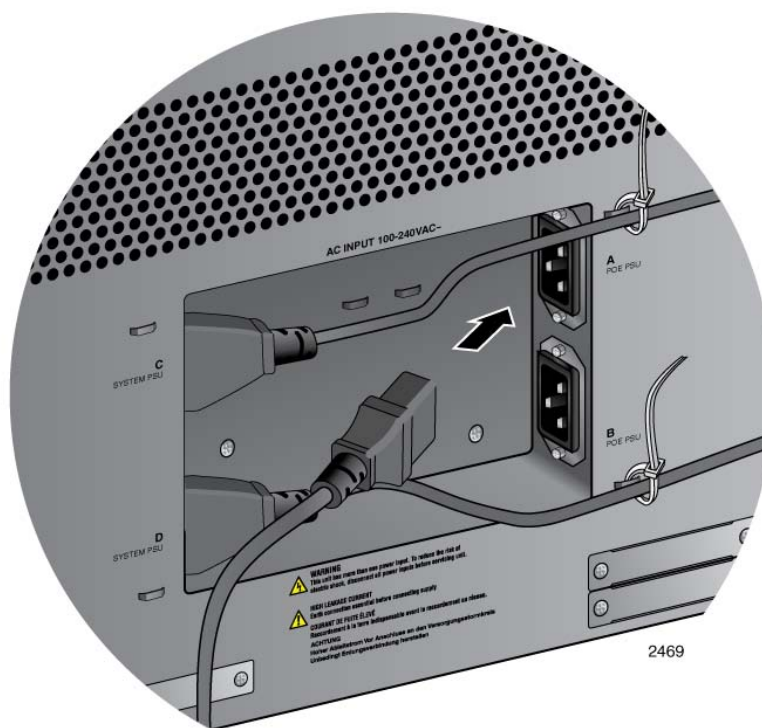

Figure 103. Connecting the AC Power Cord for the AT-SBxPWRPOE1 Power Supply
2. Plug the AC power cord that comes with the power supply into one of the plugs, as shown in Figure 103.